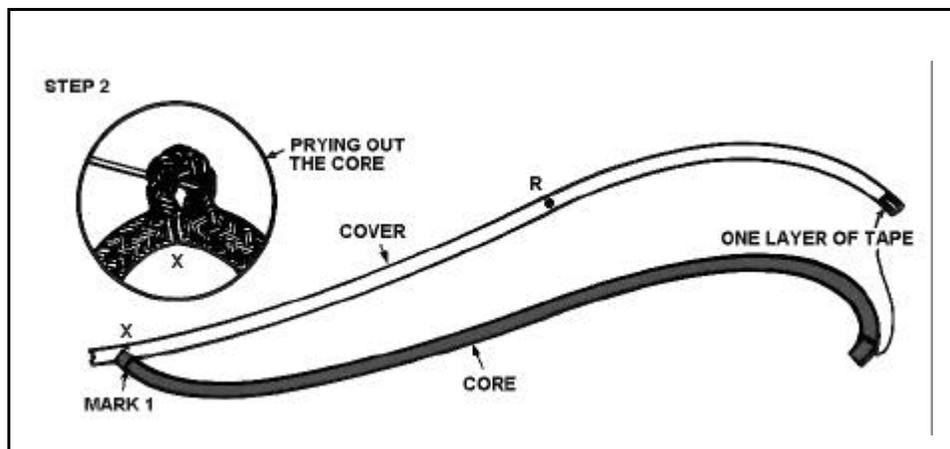

Figure 12-53. Extracting the Core (Step 2)
- **STEP 2 -- Extract the core.** Bend the line sharply at point X. With the pusher or any sharp tool such as an ice pick, an awl, or a marlinespike, spread the cover strands to expose the core. Pry and then pull the core completely out of the cover from point X to the taped end of the line. Put one layer only of tape on end of the core (see Figure 12-53).